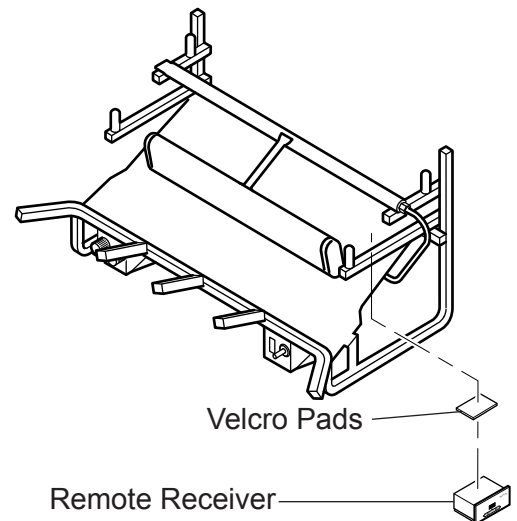

Figure 20 - Installing Remote Receiver
3. Remove the hearthmount coverplate on the remote receiver. (Battery pack must be temporarily removed prior to removing the cover plate). Stick velcro pads with self-adhesive backing to top of remote receiver and to the underside of the unit. *See Figure 20.*